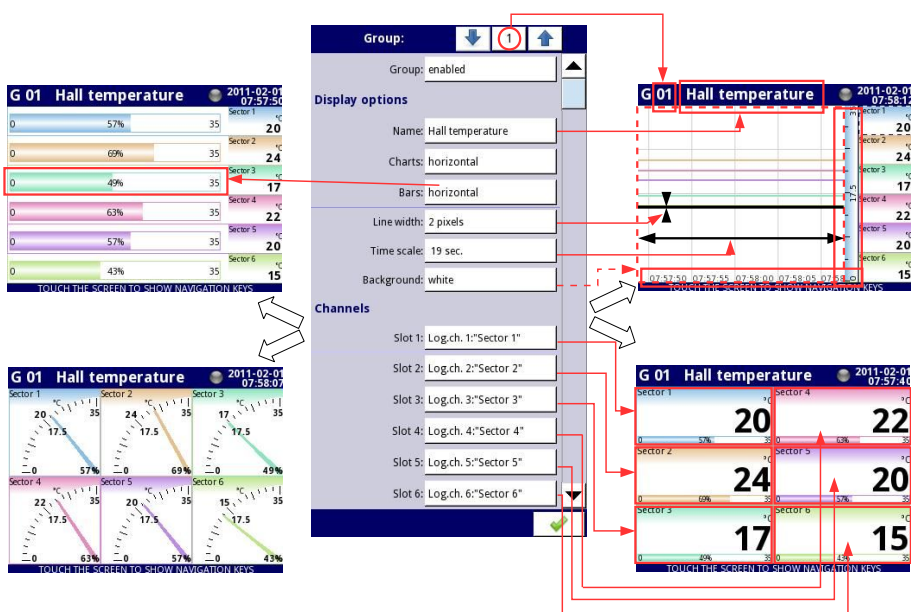
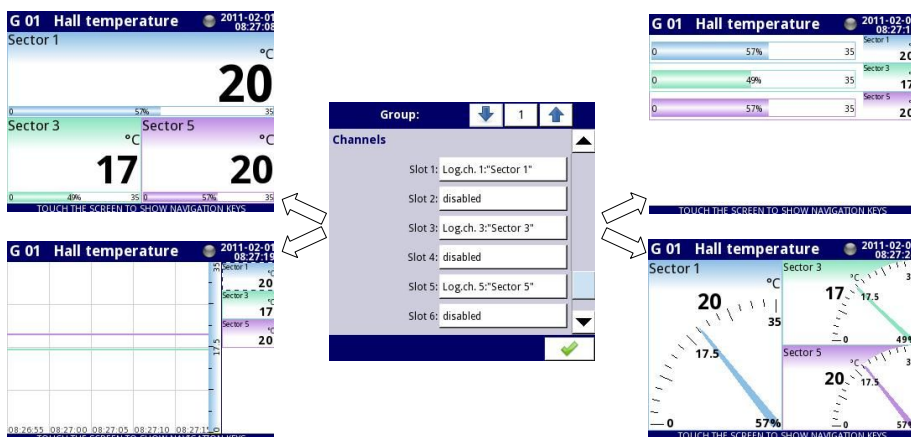

Fig. 7.134. Sample of **Group** parameters settings - all Slot set to **Logical channel**
Fig. 7.136. Sample of **Group** parameters settings - Slots set to **Logical channel** and set to **disabled**
- **Slot 1÷6** - in each slot the user can select an option (see Fig. 7.134÷Fig. 7.136):